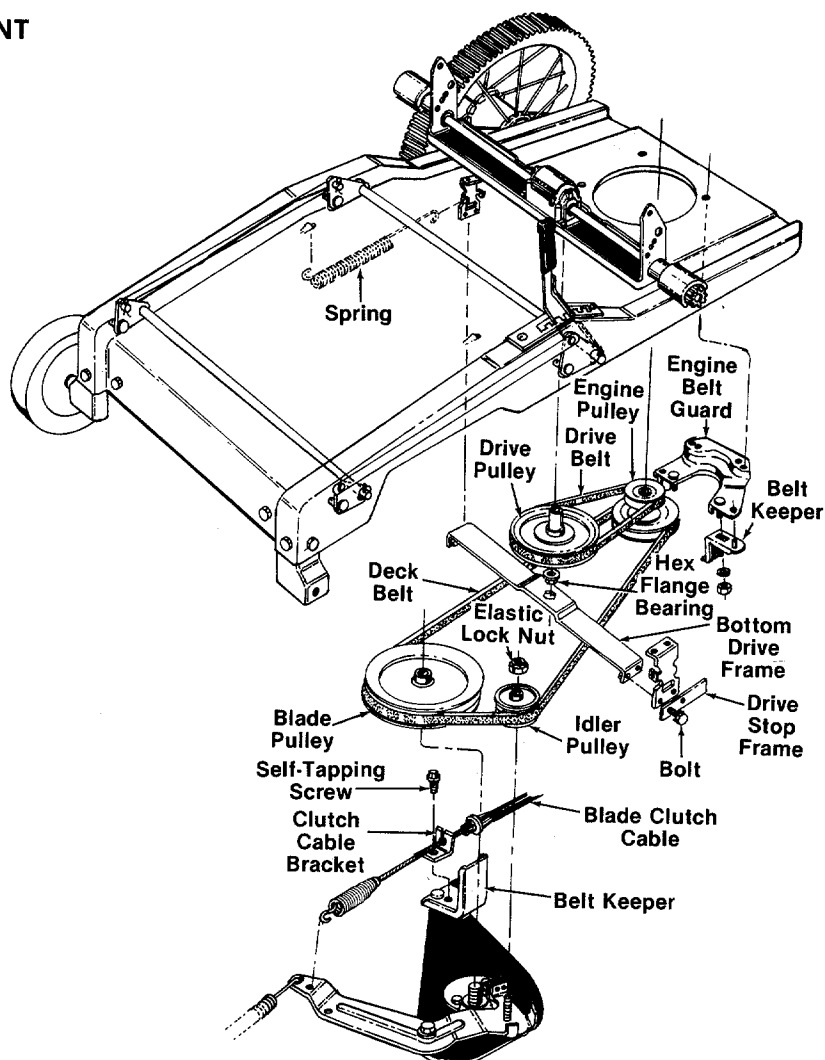

FIGURE 26.
#### **Deck Belt (See Figure 26)**
Upon reassembly, be certain the clutch cable bracket is assembled above the belt keeper as shown in figure 26.
#### **Drive Belt (See Figure 26)**
Upon reassembly, be certain the drive frame stops are assembled as shown in figure 26. Also, be certain the hex flange bearing is assembled on the shaft beneath the drive pulley and through the drive frame. Operating the unit without the bearing in place will cause damage to the unit.
4. Unhook the two springs from the frame as shown in figure 26.